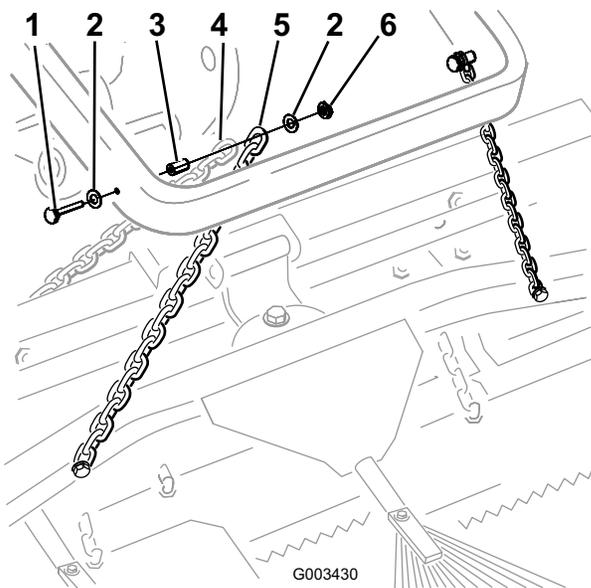

Figure 5
- Secure the top link of each transport chain to the back of the lift arm with a bolt (3/8 x 2-1/2 inch), 2 washers (3/8 x 7/8 inch), a spacer, and a flange nut (3/8 inch) as shown in Figure 5.